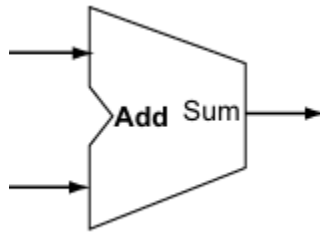

Figure 1.3: Branch Adder
2. Implement the functional unit shown in figure 1.3 below which adds two 32-bit numbers. Remember to use the port names shown in the figure.